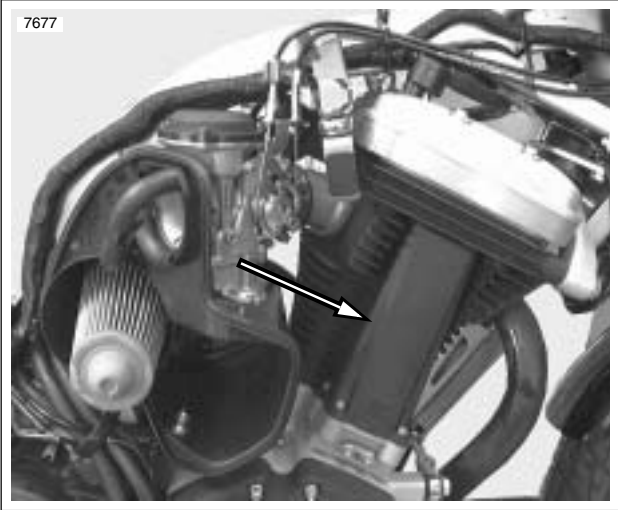

Figure 3-64. Push Rod Location
1. See Figure 3-64. Install push rod cover.
- a. Install **new** o-rings (2) on top of each push rod cover (3).
- b. Install **new** push rod cover gasket (5) onto bottom of each push rod cover.
- c. Install push rod cover assembly and start the four fasteners (4) securing bottom of cover to crankcase.